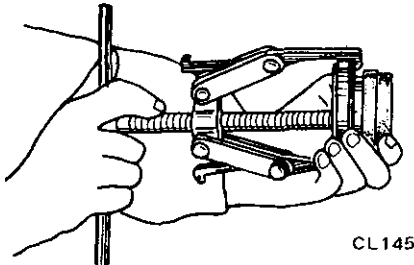

Fig. CL-9 Disassembling release bearing
4. Remove clutch release bearing from bearing sleeve, using a universal puller and a suitable adapter. See Figure CL-9.